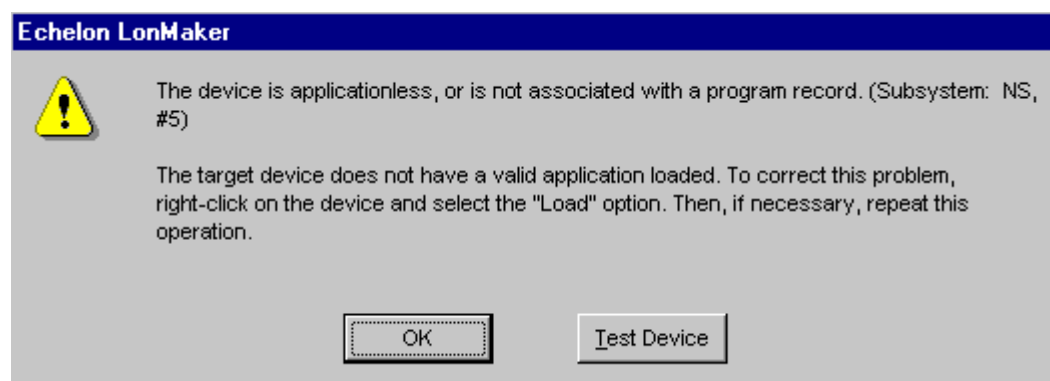

FIGURE 20-23. “THE DEVICE IS APPLICATIONLESS” ERROR MESSAGE
2. If an “Applicationless” error (see Figure 20-23) occurs while trying to commission the ModLon II, it will be necessary to load the ModLon II.nxe file to the device. Just commission the device and load the ModLon II.nxe file. Make sure that the xif file is the same as the stencil drawing.